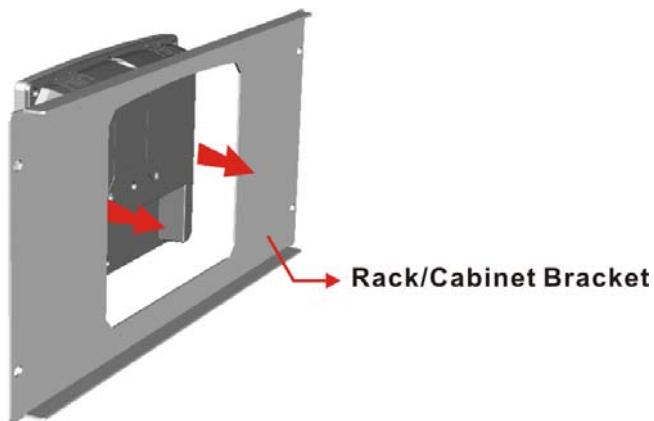

Figure 3-22: The Rack/Cabinet Bracket
- Step 1:** Slide the rear of the PPC-F06B-BT flat panel PC through the rack/cabinet bracket until the aluminum frame is flush against the front of the bracket (**Figure 3-22**).